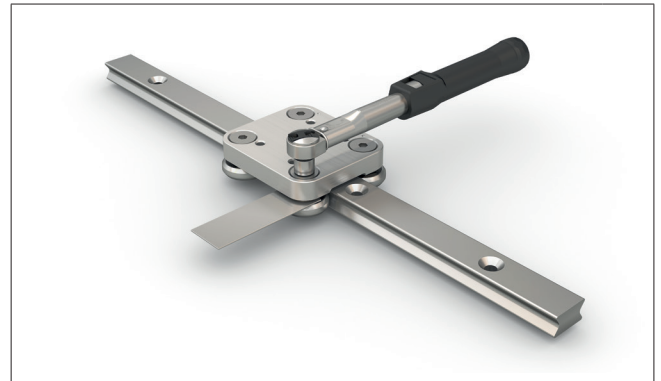

Fig.7
- ▣ The special flat key provided is inserted from the side onto the hexagon of the roller to be set (see Fig.7).